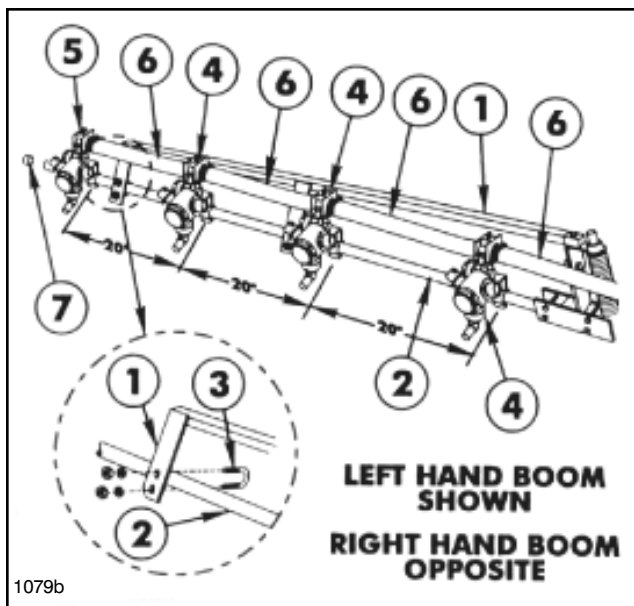

FIG. 13
14. Secure the two plates of the Boom Support Assembly to one of the Extension Boom Pipes, using two (2) 1/4" U-bolts, four (4) lock nuts and flat washers. See FIG. 13.
17. Attach three double barb and one single barb Turret Bodies with Clamp Assemblies on each Extension Boom Pipe as shown in Fig. 13.
18. Level Nozzles and space 20" apart. Connect the Turret Body Assemblies with 3/4" x 19" Jumper Hoses. Secure with hose clamps. See FIG. 13.